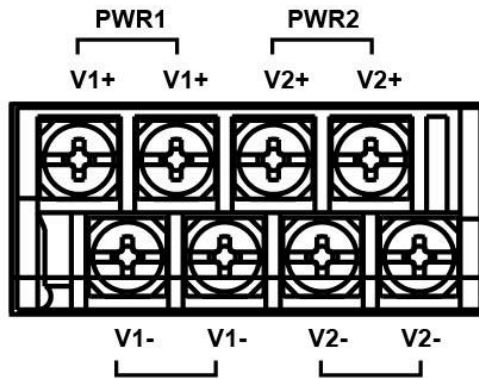

Figure 2.9 - Power Terminal Block Connector
1. Insert the positive and negative wires into the PWR1 (V1+, V1-) and PWR2 (V2+, V2-) contacts on the terminal block connector as shown below in Figure 2.9.